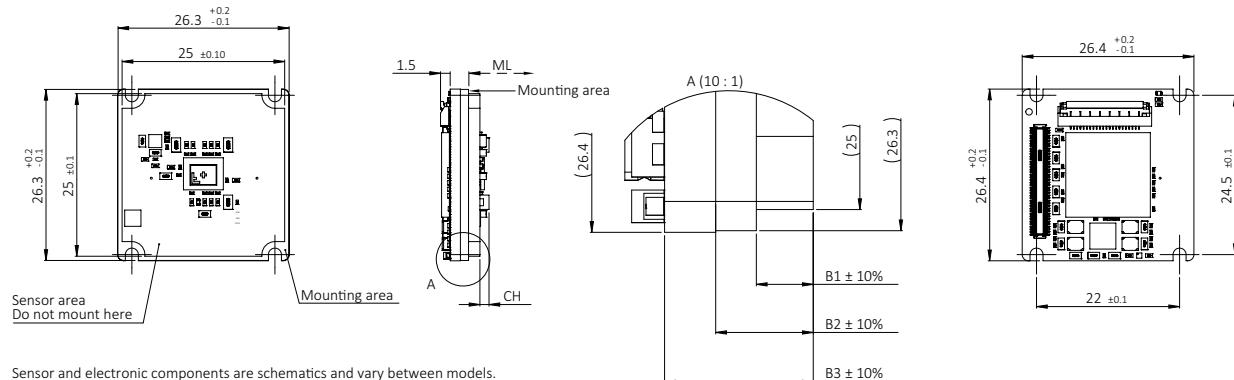

Figure 57: Bare Board dimensions
Dimensions that are common between different models are shown in Figure 57, model specific dimensions are listed in Table 76. **Mechanical length** (ML) defines the mechanical distance from the mounting area to the lens mount front flange, without optical filter. **Components height** (CH) relates to the electronic components with maximum height, sometimes the sensor.